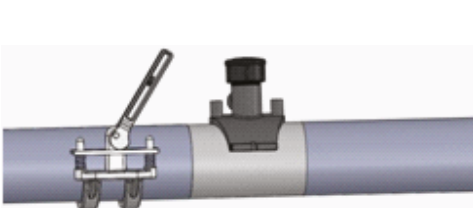

Fig. 2.6.61 Fitting re-round clamps
- Fit re-round clamps irrespective of pipe ovality as shown in fig 2.6.61.